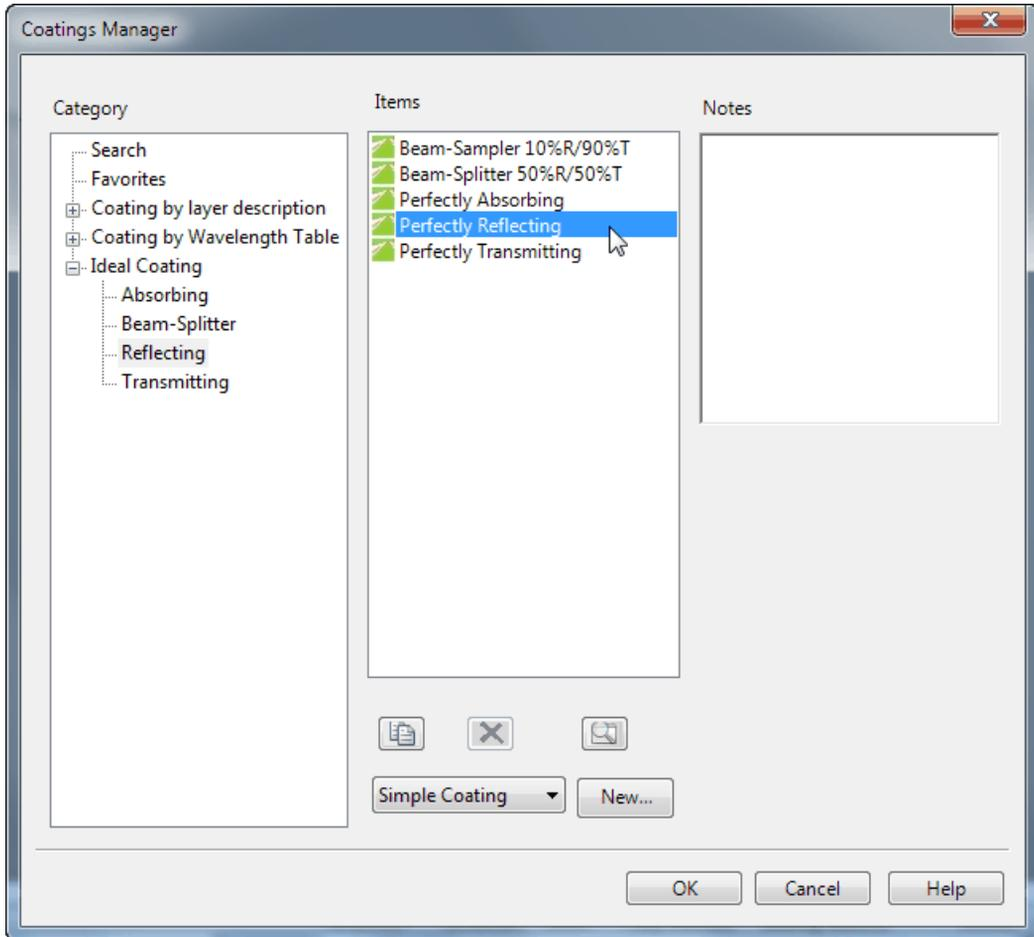

Figure 36 Applying a Perfectly Reflecting coating to the part using the Coatings Manager
- 3 On the Coatings Manager, click **Ideal Coating** under **Category**, and click **Perfectly Reflecting** on the middle panel under **Items**. See Figure 36.